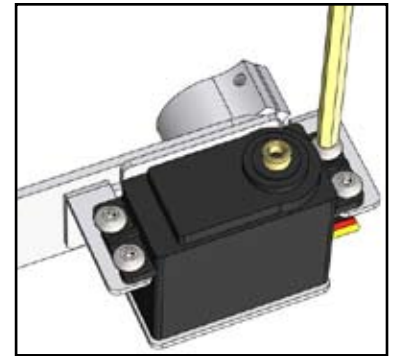

Figure D2
- 3) Making sure the servo shaft is in line with the structural element, place the servo in the motor bracket and secure it with four 3/8" BHCSs and kep nuts (Figure D2).